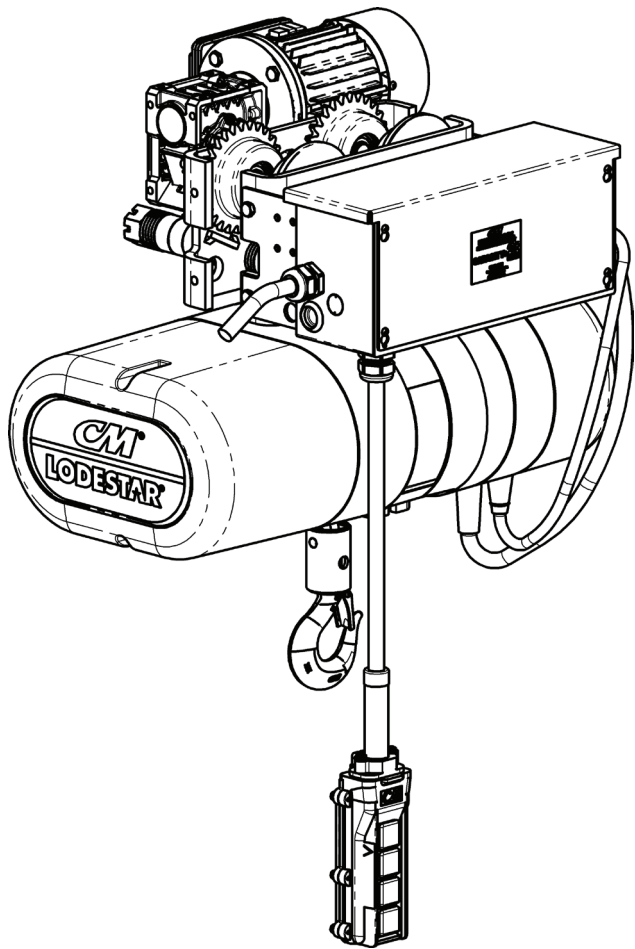

Figure 1. Hoist and Trolley General Arrangement
**See Figure 1.** When viewing the assembly from the enclosure side, the input power cord is at the left end of the enclosure. A knockout plug is shown directly below the input power cord. Knockout plugs are provided loose in the enclosure. An additional knockout is provided on the left end as well. The push button and cable assembly is attached to the bottom left end of the enclosure.